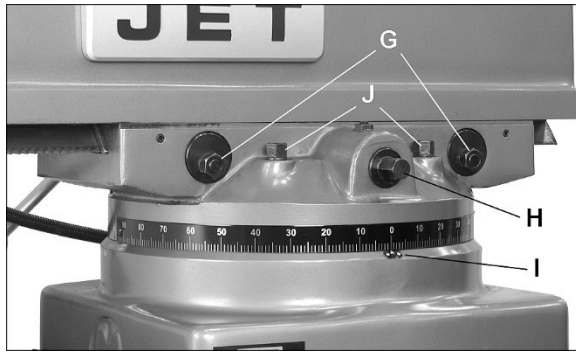

Figure 10-7: Ram positioning
Refer to Figure 10-7.
- Loosen hex nuts (G, Figure 10-7) located on the eccentric locking cylinders.
- Turn ram pinion (H) with 19mm wrench to slide ram forward or back.
- When desired position is reached, tighten hex nuts (G) securely.